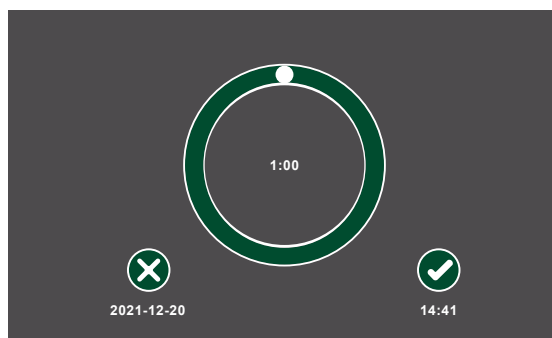

Figure 16. Sample application time out screen
As soon as the NFC card is read, the Labmaster LUCIA™ cassette should be placed onto the tray and apply the sample within **1 MINUTE**. See Figure 16.
16. After adding the sample, tap the Accept icon on the sample application time out screen. See Figure 16.